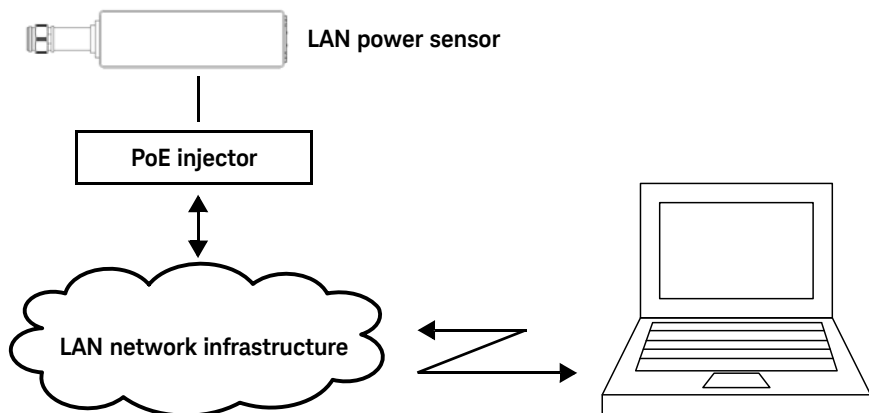

Figure 1-6 Connect the LAN sensor via Dynamic IP
- 1 Set up the connection as shown in **Figure 1-6**.